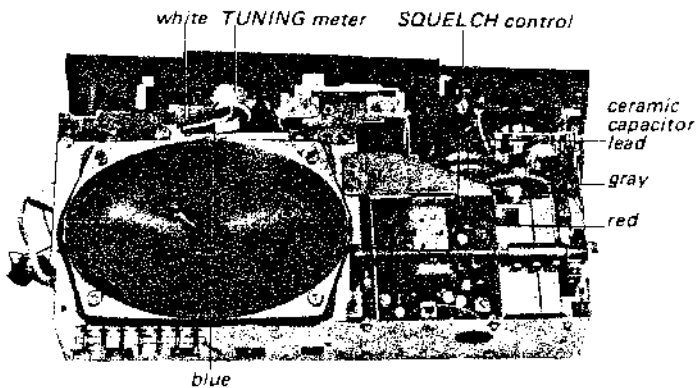

Fig. 2-8
9. Unsolder the two pvc lead wires (white and blue) at the TUNING meter shown in Fig. 2-8.
10. Unsolder the two pvc lead wires (gray and red) and the ceramic capacitor lead at the SQUELCH control shown in Fig. 2-8.